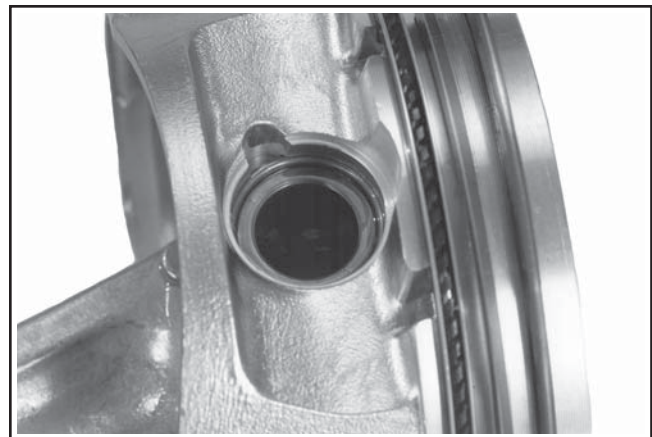

Figure 11-5. Installing Piston to Connecting Rod.
- Assemble the piston to the connecting rod. See Figure 11-5.